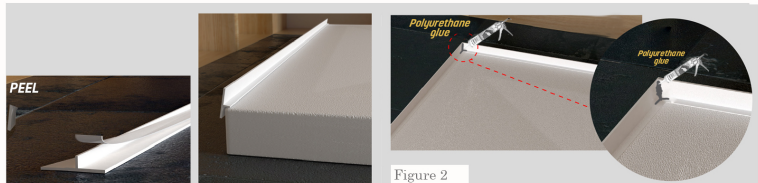

Figure 2
1.1 Install the tile flange to the base and seal the corners with polyurethane glue as per Figure 2.